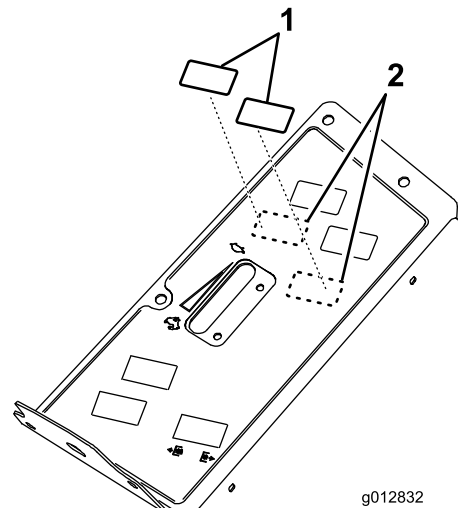

Figure 26
44. Locate and remove the two knock out plugs, shown in Figure 26, from the top of the control panel.